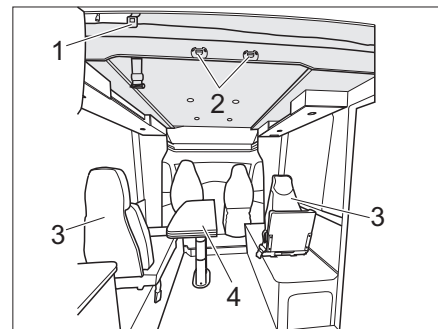

Fig. 159 Electrical pull-down bed (variant 3)
- Hook the access ladder to the pull-down bed by attaching both brackets into the U-bolts (Fig. 159,2).
- Lower the lowerable 2-legged folding table (Fig. 159,4) (see section 7.8.8).
- Remove 2 individual seats (Fig. 159,3) and stow them.